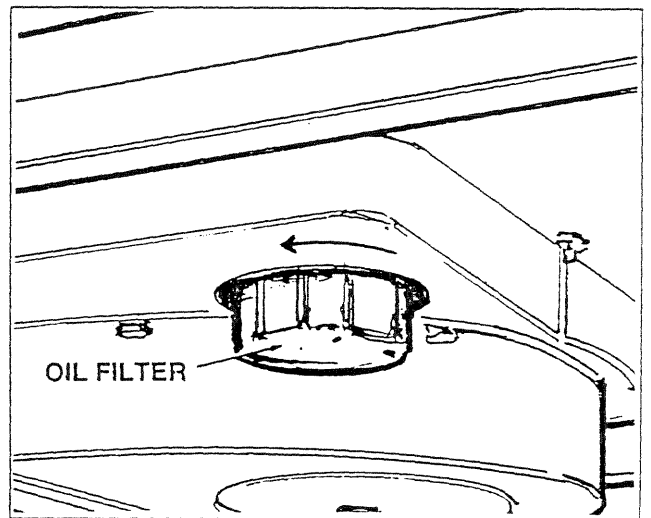

Figure 5 — Engine Oil Filter
- Turn oil filter counterclockwise to remove (Figure 5).